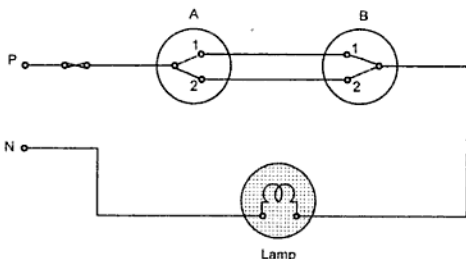

Fig. 8.15 ' OFF ' position of lamp
When person reaches on second floor, the lamp is required to be switched OFF. So person will change switch B from (2) to (1), due to which, phase connection reaching to the lamp gets opened and lamp will be switched OFF as shown in the Fig 8.15.